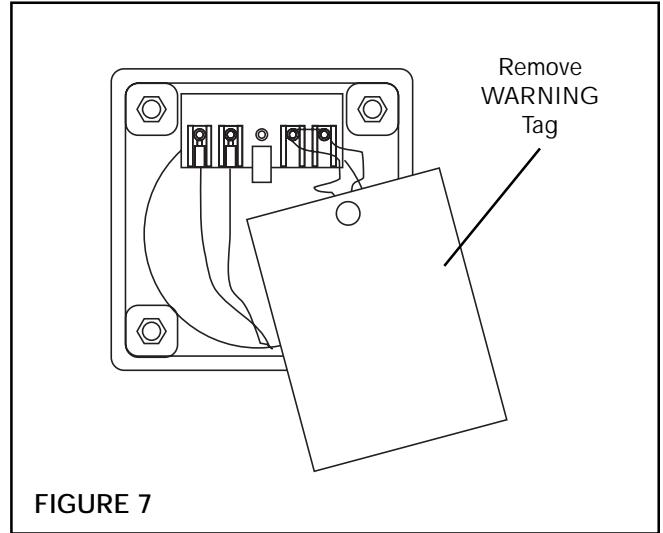

FIGURE 7
1. Remove the cover from the EN40-IS and remove the WARNING Tag from the INPUT terminals (See Figure 7).